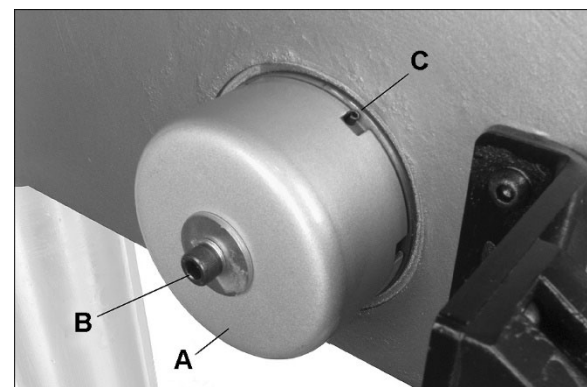

Figure 7-3
1. Grasp spring cover (A, Figure 7-3) firmly with one hand. Loosen screw (B) just enough to rotate spring cover past pin (C) and settle it on the next notch. *DO NOT remove spring cap or allow it to rotate freely in your hand*, or spring may unwind.
3. Re-tighten screw (B).